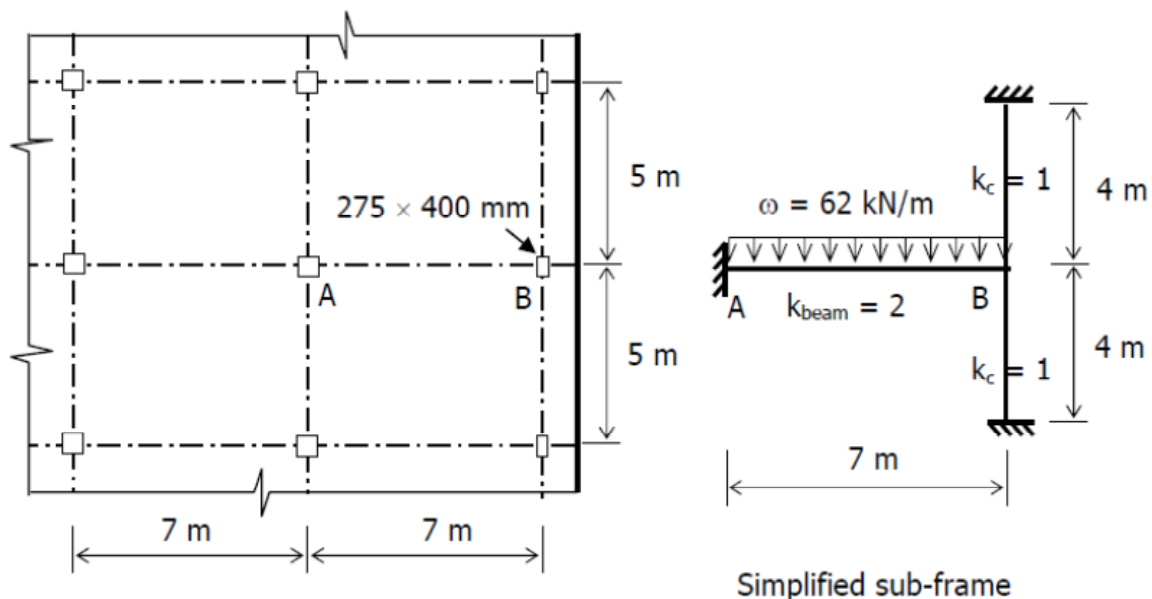

Figure Q2
Figure Q2 shows part of a concrete floor supported by columns. The building is braced in two orthogonal directions. The clear storey height is 4 m and the effective length factor is 0.85. The interior column at A carries an ultimate axial load of 3200 kN from the beams which are symmetrically arranged. The exterior column at B carries an ultimate axial load of 1700 kN and a moment  $M$ , transmitted from the beam spanning between AB. Use  $f_{cu} = 35 \text{ N/mm}^2$ ,  $f_y = 460 \text{ N/mm}^2$ . Assume a 60 mm cover to the centroid of longitudinal reinforcement.
- (b) Determine the design moment in column B from the simplified sub-frame in Figure Q2. The beam stiffness is 2 times of the column members. The ultimate design load on beam AB is 62 kN/m. Design the reinforcement and show the arrangement of bars and links on a sketch of the section.